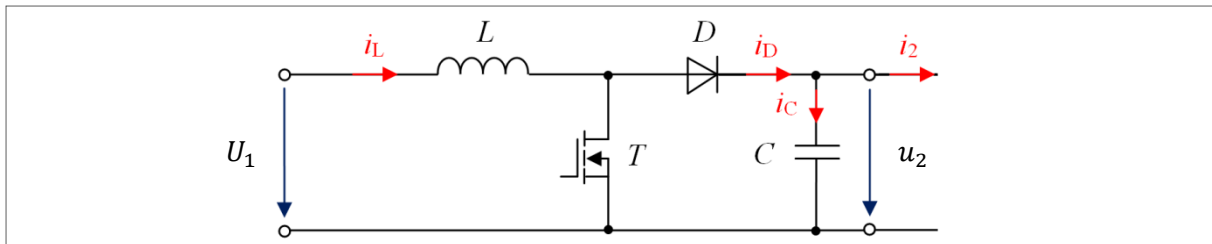

Figure 2.1: Topology of boost converter
- 2.6** Modify the converter of Figure 2.1 resulting in a PFC-rectifier so that an AC input ( $U_0 = 230$  V,  $f_{\text{grid}} = 50$  Hz) can be used as supply. The output voltage is still  $\bar{u}_2 = 400$  V.